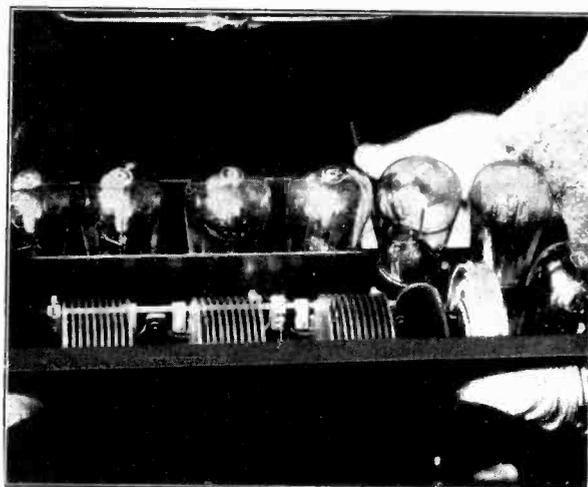

Fig. 5—Adjusting Compensating Condenser
- E. Compensating condenser out of adjustment. Adjustment can be made as shown in Figs. 5 and 6 by means of the neutralizing screw driver part 18460. The following procedure should be used.
- (1) Pull the radio panel forward as far as possible
- (2) Loosen the four screws in the shield at the back of the chassis, and lift the shield away from the chassis.
- (3) Tune the Radiola to a broadcasting station on the lower wave lengths.
- (4) Turn the volume control to the point of maximum intensity and the sensitivity control all the way to the right.
- (5) Insert the neutralizing screw driver in the condenser adjustment screw, and turn the screw until the receiver goes into oscillation.
- (6) Turn the screw in the opposite direction until the oscillation just stops.
- (7) Check this adjustment for a station at approximately the middle of the scale and for one near the top of the scale, making certain that the R. F. stage does not oscillate at any of these points.
- (8) Replace the shield.